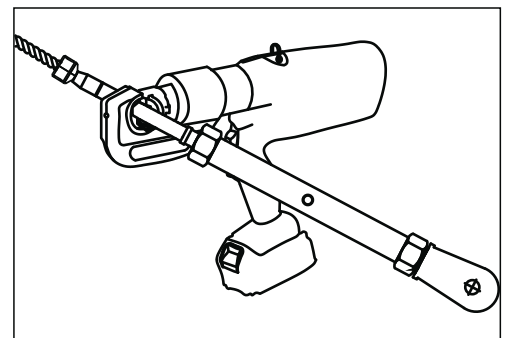

Fig:1
- Selection of the right size of Hex loc die is critical. Ensure that the hex loc Die has dimensions as in the Fig1.
**Note1:** The size of the Die available on the market nearest to the recommended size in Fig. 1 is 50mm2
- Attach the D Shackle to the shock absorbing eye of the extremity post (see figure1)
- Insert the cable through the intermediate tube (refer to figures 1 & 2).